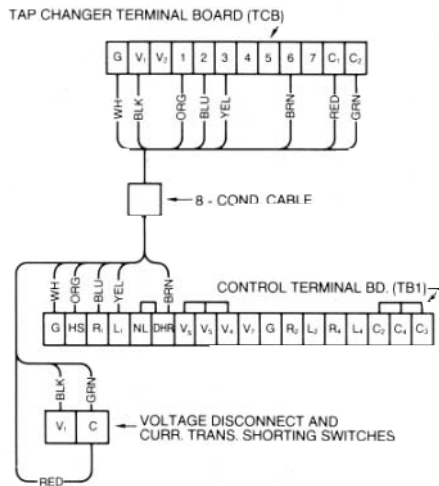

Figure 2-10.
1. Count the number of wires in the existing control cable to determine which wiring schematic applies to your regulator. All VR-32 regulators produced in this period had either 8, 9, or 10 conductors in the control cable (Figure 2-10, 2-11, or 2-12).